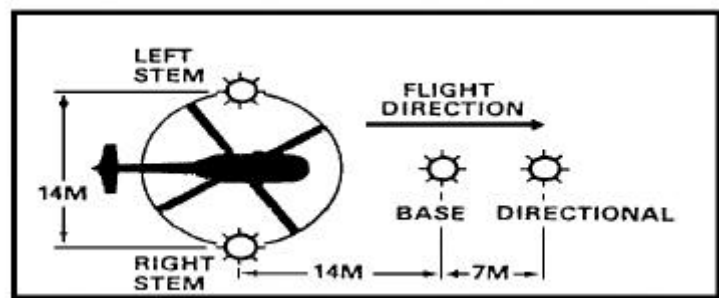

Figure 2-2. Inverted Y
- Lighting. In a forward area, usually you light landing zones only when US or friendly forces have air superiority. If night lighting is required, use the beanbag light set. The inverted Y is the recommended system for approach cues. Use at least two lights to mark the touchdown point. All lights should be hooded or turned upside down for security until the last practical moment when helicopters are inbound. Figure 2-2 shows the layout of the inverted Y.